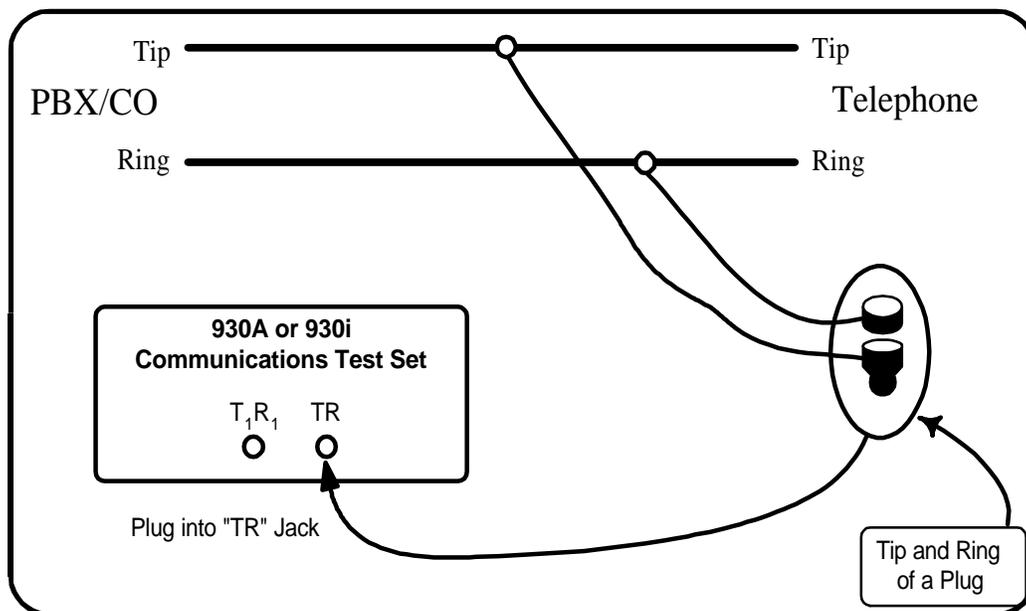

Figure 1 — Bridging Connections
1. As shown in *Figure 1* below, connect a cord between the 930 "TR" jack and the pair of telephone wires connecting the phone to the PBX.